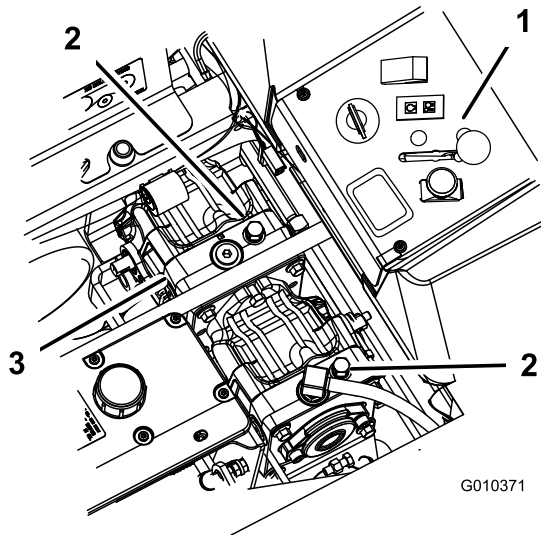

Figure 37
2. Rotate the bypass valves counterclockwise 1 turn to push (Figure 37).
Rotate the bypass valves clockwise 1 turn to operate machine (Figure 37).